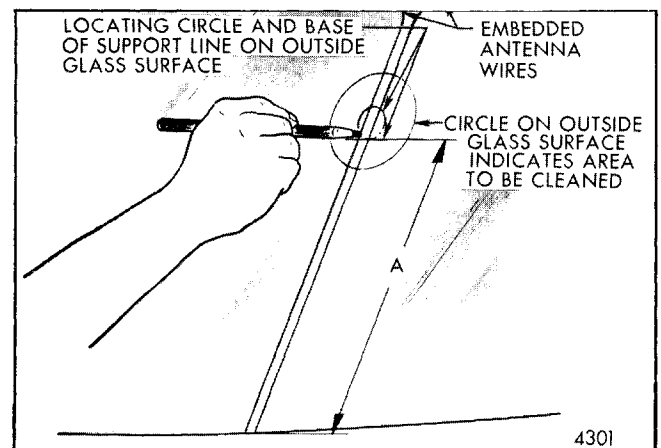

Fig. 11-21-Locating Bonded Rearview Mirror Support on Glass
1. Determine rearview mirror support position on windshield. Support is located at center of glass at one of following dimensions from base of glass to base of support (dimension A, Fig. 11-21):
2. When location is determined, mark location on outside of glass with wax pencil or crayon. Also make larger diameter circle around the mirror support circle on the outside glass surface (see Fig. 11-21).